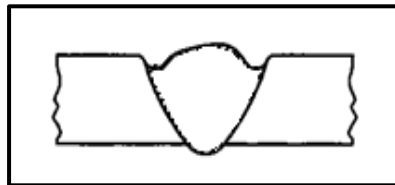

FIGURE 8.3.1
8.3 Identify the arc welding defects in the butt joint shown in FIGURES 8.3.1 and 8.3.2 below.